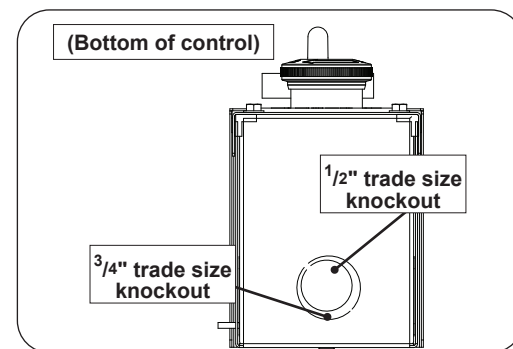

Fig. 4-3 Run electrical wiring
1. Route electrical wiring to the control as required for your installation. Use the appropriate knockouts ($\frac{1}{2}$ " or $\frac{3}{4}$ " trade size) to run wiring to controller. See Fig. 4-3.